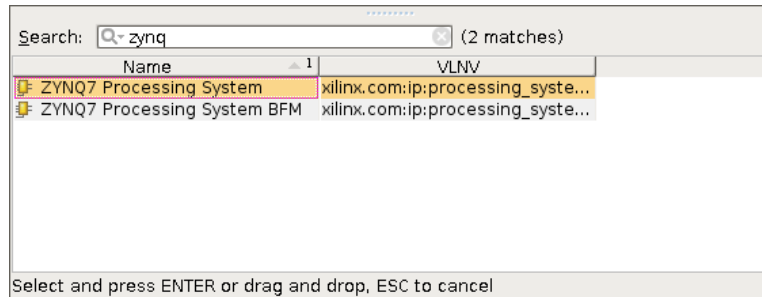

Figure 3: Zynq Processing System
2. Click on 'Create Block Design' and name the design 'multiply'. In the diagram, add 'ZYNQ7 Processing System' IP as in Figure 3.
4. In the 'Re-customize IP' window, click on 'Peripheral I/O Pins'. To build the hardware depicted in Figure3. Enable 'UART 1' by clicking on the check box. Double check and make sure that only the